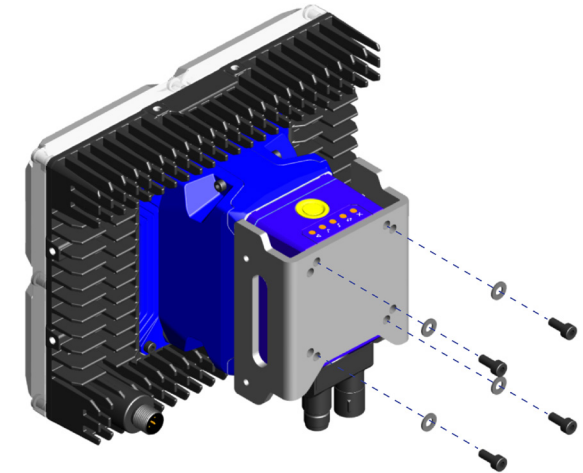

Fig. 2 - Mounting the Fast Replacing Plate
1. Fix the Fast Replacing Plate to the reader body with four screws and washers on the back side, as shown in Fig. 2.